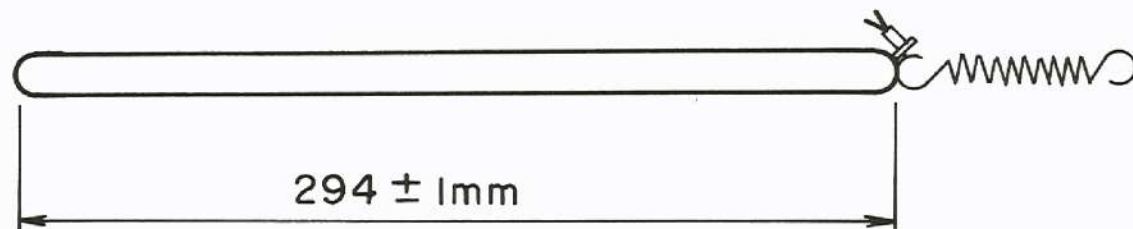

Fig. 3-1
1. Build a Dial cord as shown in Fig. 3-1.